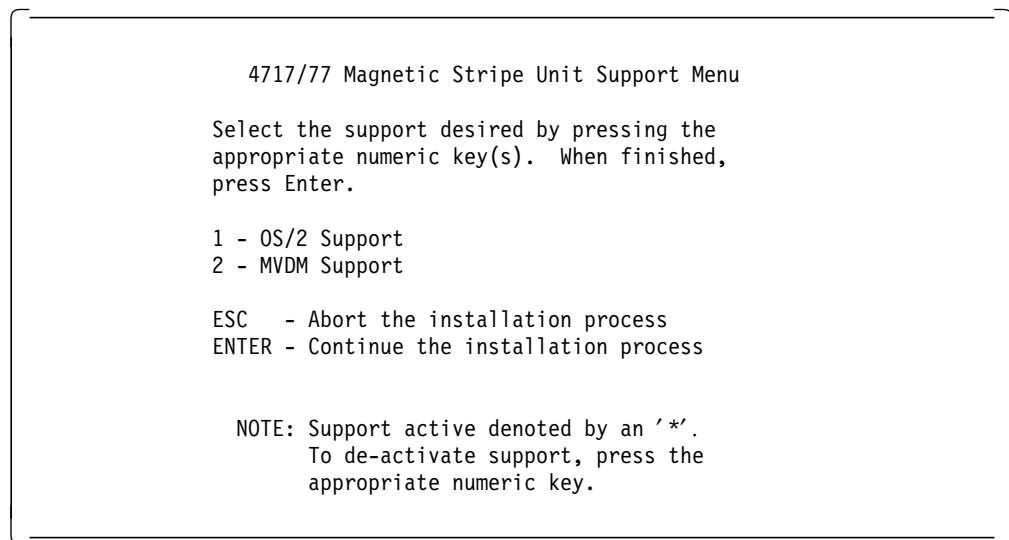

Figure 64. OS/2 and MVDM Support Menu
2. After selecting the desired option press Enter and a menu like Figure 64 will be displayed.
As shown in Figure 64, you need to select the desired option: